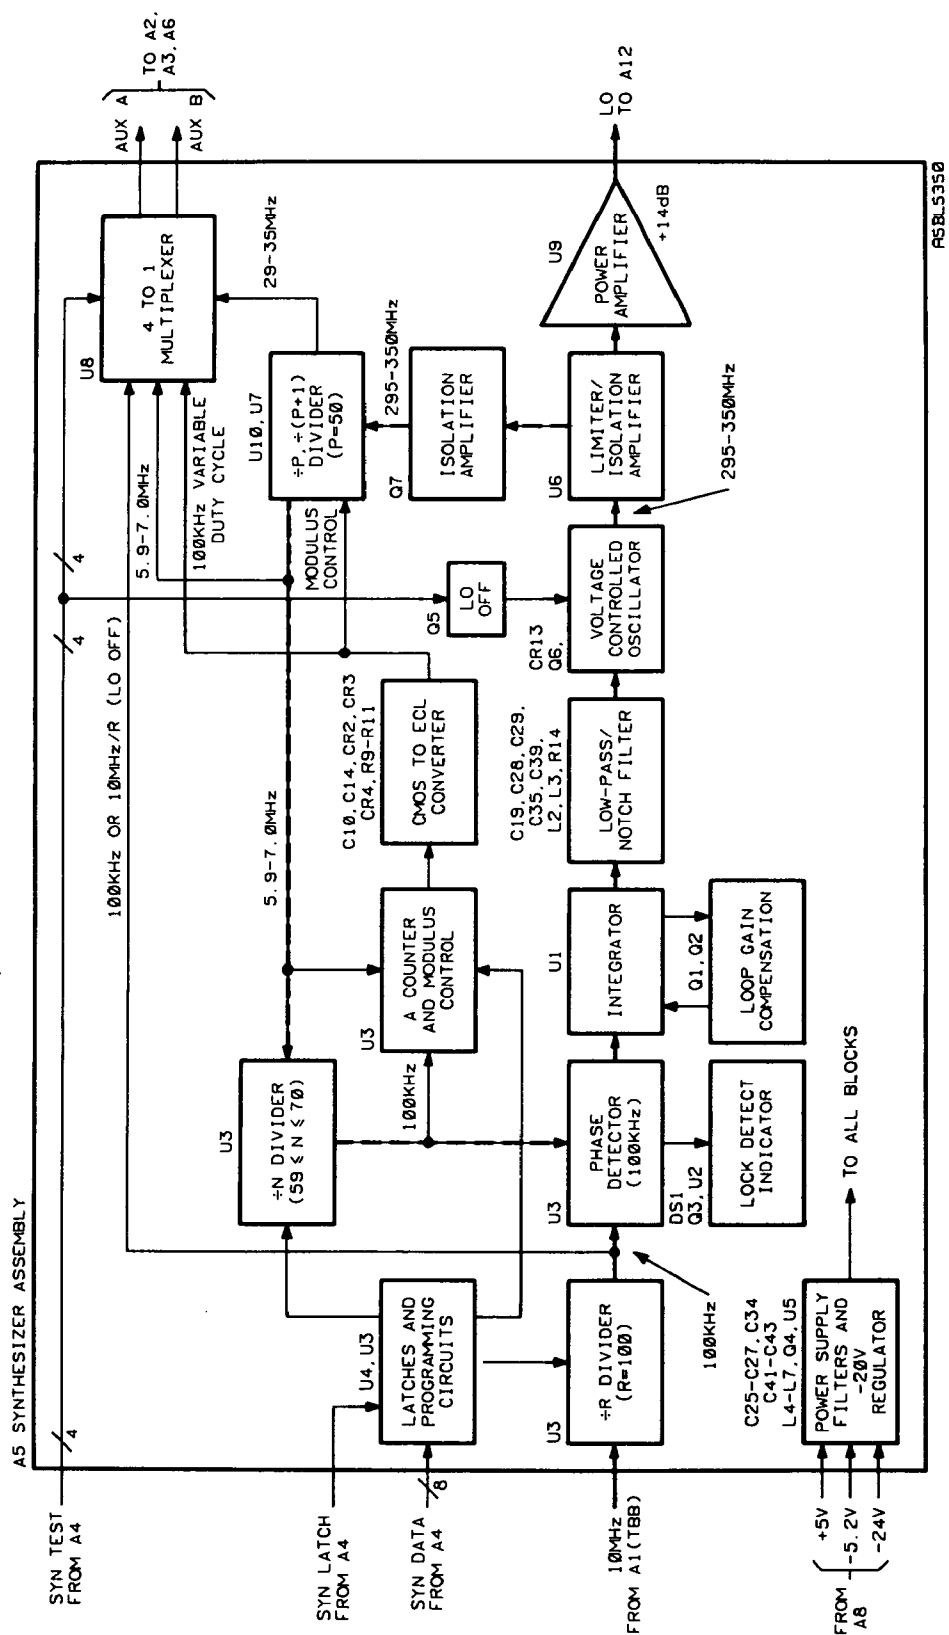

Figure 8-18. A5 Block Diagram
8-272. The A5 Synthesizer Assembly provides the 294.5 to 350.0 MHz local oscillator (LO) signal to the Microwave Module. The LO frequency is programmed by the A4 Microprocessor Assembly, and is referenced to the 10 MHz timebase signal. The synthesizer is based on a single phaselock loop (PLL), which gives the high frequency wideband tuneable oscillator (VCO) in the synthesizer the same frequency accuracy and drift characteristics as the crystal oscillator timebase. The following theory of operation will begin with a general discussion of the overall operation of the circuit (refer to *Figure 8-18*), followed by a detailed circuit description.